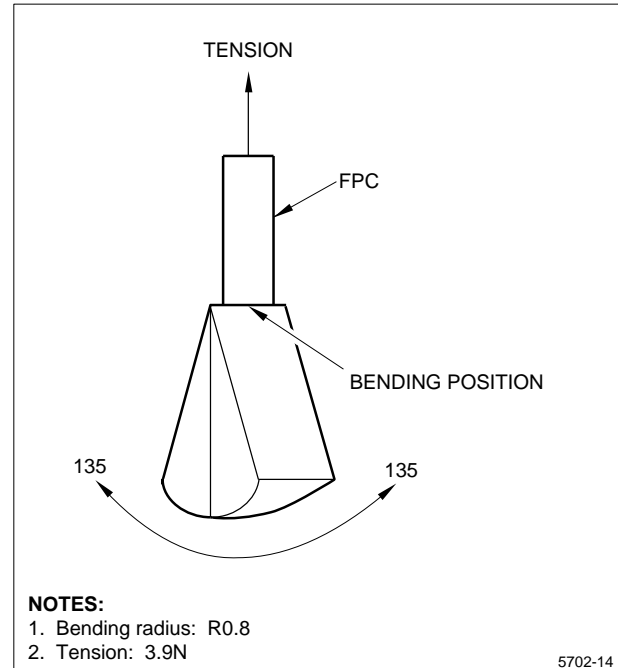

Figure 9. MIT Test (JIS P8115)
In the tests shown in Figures 9 and 10, no open lines happen before the following cycles:
- Figure 9: MIT test – 500 cycles